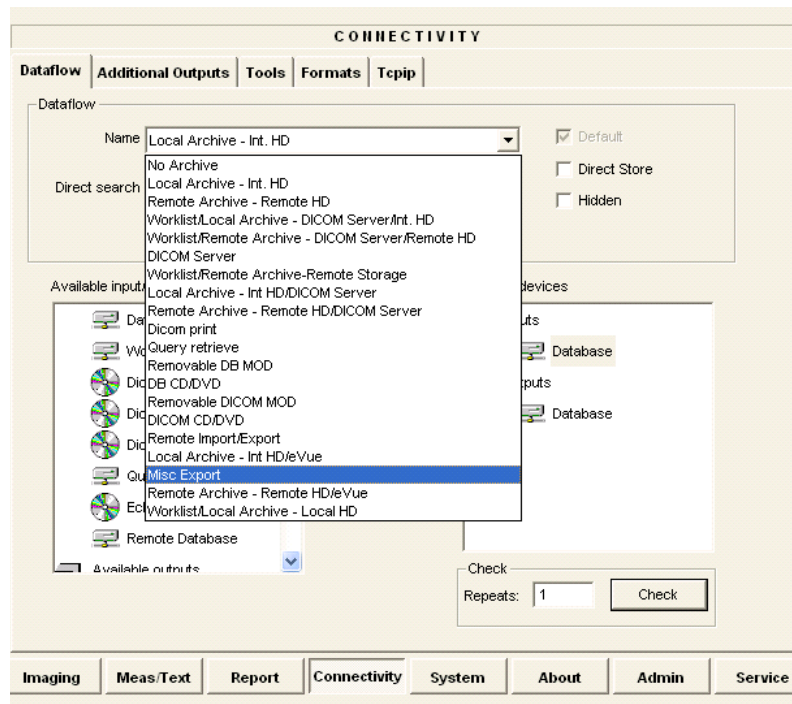

Figure 3-91 Dataflow - Misc Export
- 4) From the drop-down menu, select **Misc Export** - see Figure 3-91.